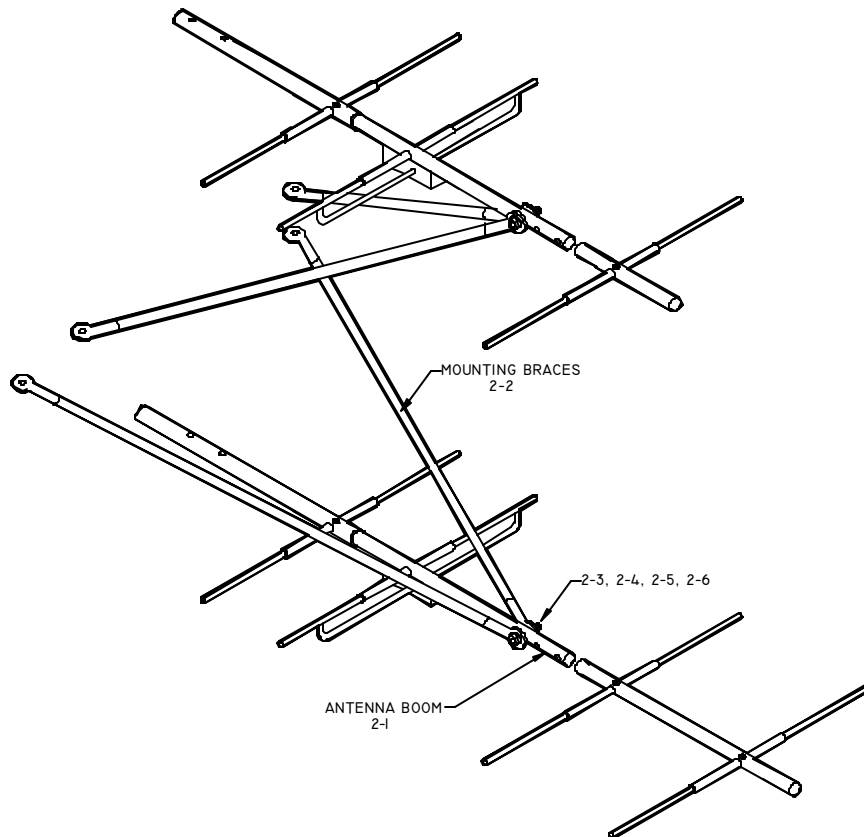

Figure 3
- a. Attach end of each brace to mounting hole on antenna boom, per Figure 3.